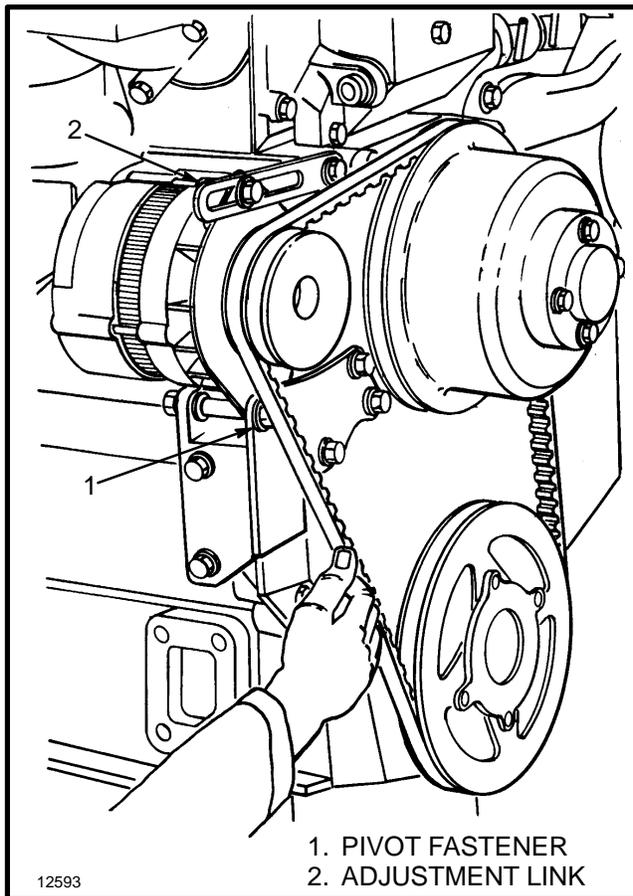

FIGURE 21. CHECK AND ADJUST DRIVE BELT TENSION (PERKINS DIESEL)
See FIGURE 21. Loosen the bolt on the adjustment link (2) and the pivot fasteners (1) to adjust the tension of the drive belts. Push the alternator pulley against the drive belts to adjust the tension. Tighten the adjustment link and pivot fasteners.